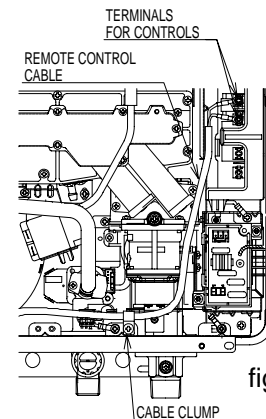

fig. 2
b) Extended Direct Flueing with Wall Terminal: (Fig.2)
4. **Ensure the position of the terminals for controls** shown on the printed circuit board **COVER**. Connect the spade connectors to the terminals on the P.C.B. (Fig. 2). Polarity is not important. Either wire colour can be connected to either terminal. Connect cord anchorage clip to controller wire.
5. **Ensure the position of the terminals for controls** shown on the Printed Circuit Board **COVER**. Connect the 4 spade connectors to the terminals on the P.C.B. (fig 2). Polarity is not important. Either wire colour can be connected to either terminal. Connect cable clamp around controller wiring to provide cord anchorage.
5. Fit the Frost sensing switch (92093996). This is the black sensor with the built in brackets and clips vertically on the water tube at the top left hand side of the heat exchanger. (See note ①, Fig. 2.).
6. Fit the long white round Anti-frost heater (92093988\*) with two hook brackets (92076123) to the tube on the front of the heat exchanger. (See note ②, Fig. 2.).
7. Using the clip bracket (92086123) fit the square Anti-frost heater (92093988\*), to the rear of the hot water outlet tube. This is located on the lower left hand side of the heat exchanger and can be easily accessed without removing any components. (See note ③, Fig. 2.)
8. On the cold water inlet servo valve located in the lower center of the unit, remove the retaining screw and insert the Valve heating element (92094010), refit the retaining screw. (See note ④, Fig. 2.)